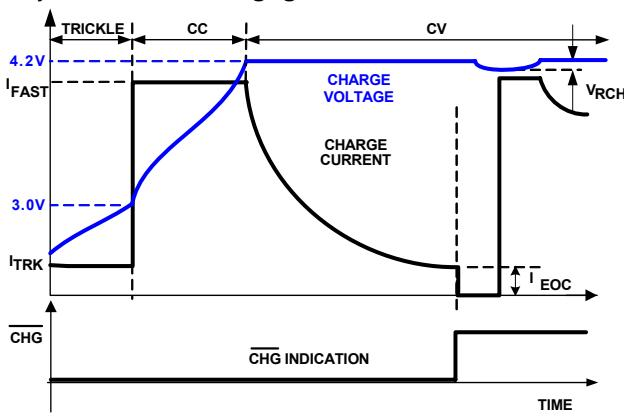

FIGURE 29. TYPICAL CHARGING CYCLE FOR CONT = L
The charger function is similar to other Li-ion battery chargers, i.e., it charges the battery at a constant current (CC) or a constant voltage (CV) depending on the battery terminal voltage. The constant current  $I_{FAST}$  is set by the external resistor  $R_{REF}$ . Depending on the combination of the AC/USB and the MODE pin status, the actual charge current may be reduced by the input current limit. When the battery voltage reaches the final voltage of 4.2V, the charger enters the CV mode and regulates the battery voltage at 4.2V to fully charge the battery without the risk of overcharging. Upon reaching an end-of-charge (EOC) current, the CHG will turn to high impedance to indicate a charge complete state and if CONT is low, Q2 will be turned off to terminate charging. Figure 29 shows the typical charge profile with the EOC recharge events when CONT is low.